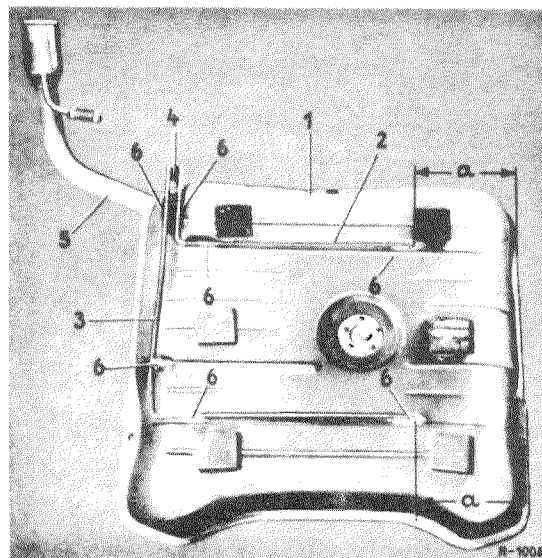

Fig. 47-1/2
4. Solder the vent lines (2) and (3) to the corrugations and lay them along the breathing line (4) (Fig. 47-1/2).